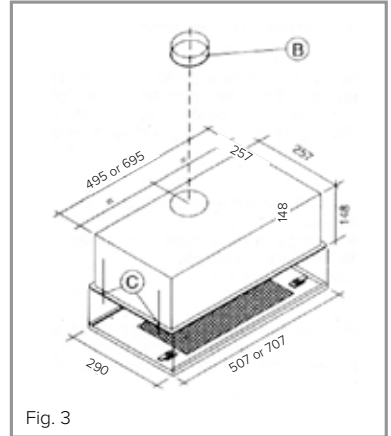

Fig. 3
2. Hold the extractor in the housing and secure to the canopy using 4 wood screws, located in the corner of the extractor, as shown as C in figure 3. We recommend that you seek the help of another individual when carrying out this task.
Figure 3 shows how the extractor should be vented.